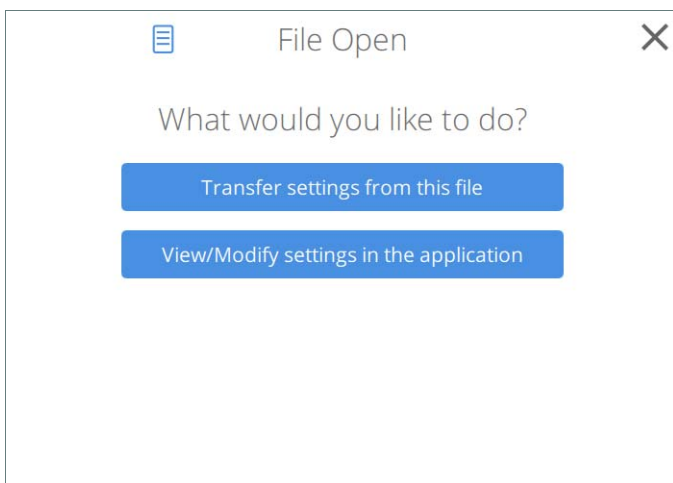

FIG. 40 File Open Options window - What would you like to do?
3. Locate and select the desired Acendo Vibe Configuration File and click **Open** to invoke the *File Open options* window to specify whether to transfer or simply open the selected (*.json) file (FIG. 40):
NOTE: Alternatively, click "Transfer settings from this file" in the File Open window (see FIG. 40).
1. In the *File Open* window, click **View/Modify settings in the application** (see FIG. 40).